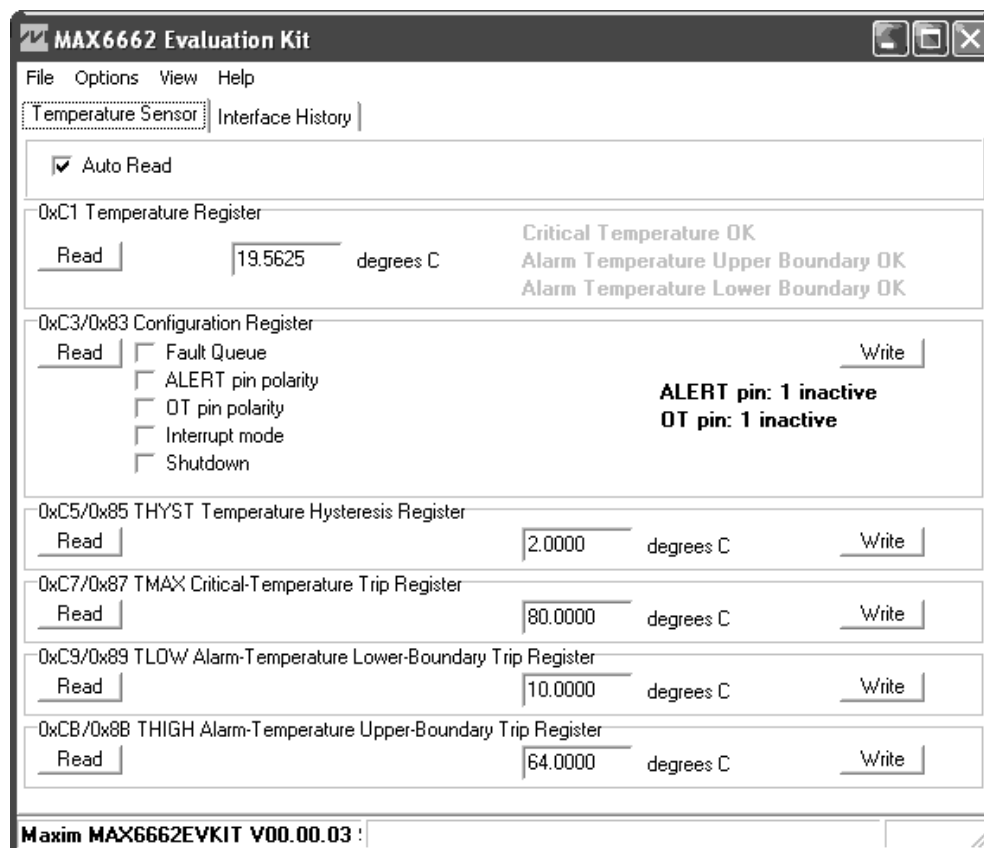

Figure 1. MAX6662 EV Kit Software Main Window (Temperature Sensor Tab)
- Start the MAX6662 EV kit software by opening its icon in the **Start | Programs** menu. The EV kit software main window appears, as shown in Figure 1.
The main window of the evaluation software (Figure 1) displays the registers of the MAX6662 temperature sensor. Each register has a **Read** button and each writeable register has a **Write** button. The status of the ALERT and $\overline{\text{OT}}$ output pins are displayed inside the **0xC3/0x83 Configuration Register** group box.
The **Temperature Sensor** tab sheet displays the temperature sensor registers of the MAX6662 (Figure 1).